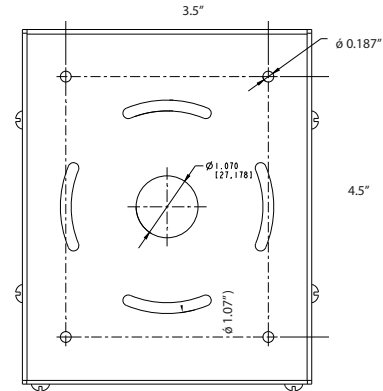

Fig: 4
2. Mount **Pendant Box** to ceiling by drilling out **Drill Out Locations** as shown on **Fig. 4**. Use appropriate mounting hardware suitable for the mounting surface.
3. Slide **Pendant Box** onto **Pendant Box Plate/ Housing** and tighten **Screws (4)**.